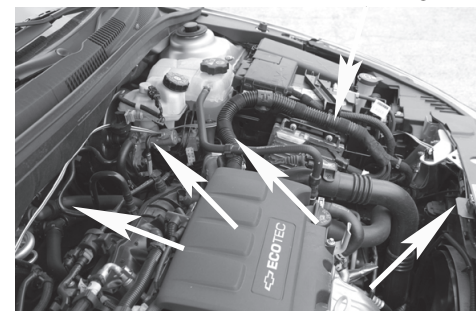

Figure 7
12. Continue routing towards front of vehicle along brake lines securing with cable ties at the brake line brackets. Follow brake lines up into the engine compartment and along the driver side of engine to front frame rail of compartment shown in **Figure 7**. Secure wires to factory wire harness with cable ties provided.